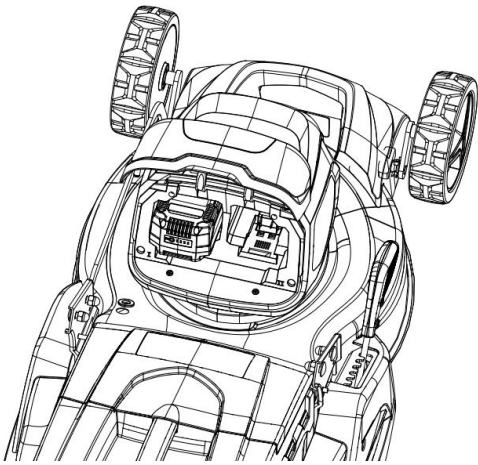

Fig.5A
3. Depress the battery-release button. (Fig.5A)